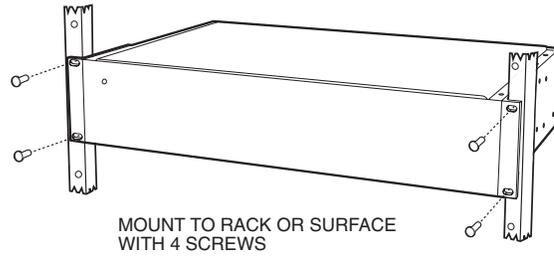

Figure 8. Mounting the Matrix Switcher
3. Refer to Figure 8. Use suitable hardware to mount the SCU in equipment bay or against a flat surface, according to your installation requirements.